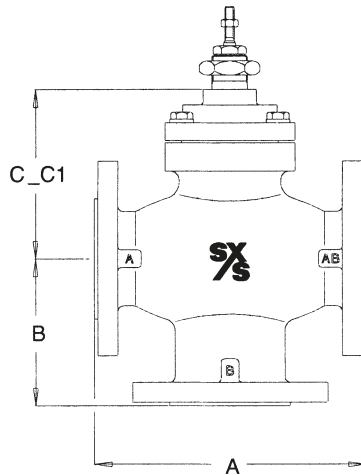

Fig. 3
- c) Remove lock nut (8).
- d) Unscrew gland nut (9), withdraw spring (12) from the stem; remove and discard lower bush, gland seal set and upper bush (17a + 11 + 17b), and gland nut gasket (7).
- e) Examine parts for signs of damage or deterioration and renew as necessary. Note that score marks or scaly deposit on valve stem (5) will lead to early failure of the seals. Clean parts taking care to avoid scratching stem or bore of gland nut. In case valve stem (5) needs to be replaced, follow instructions from point f) to h) and point k).
- f) Unscrew the nuts (15) securing the bonnet to the body and remove the bonnet (2) complete with stem and plug (3 + 5).
- h) Using new bonnet gasket (13) refit the bonnet (2) on the valve body, leaving the stem protruding. Replace the nuts (15) and finger tighten.
- i) To renew the gland seal set, first fit the spring (12) over valve stem, and replace gland nut gasket (7). The upper bush (17a) (only for valves DN15-50), the new gland seal set (11) and the lower bush (17b), must be firmly inserted into the gland seal nut (9), as indicated in Fig. 3, care being taken to avoid damage to the sealing edges. Refit gland nut (9) over the valve stem, screwing down with care to ensure the gasket is bedded down onto the bonnet. Tighten to the right torque as given in Table 1.
- j) Ensure the stem (5) moves freely.
- k) (Only if bonnet has been removed) While pushing the valve plug against the seat, tighten the nuts (15) to the right torque as given in Table 1.
- l) Refit valve lock-nut (8).